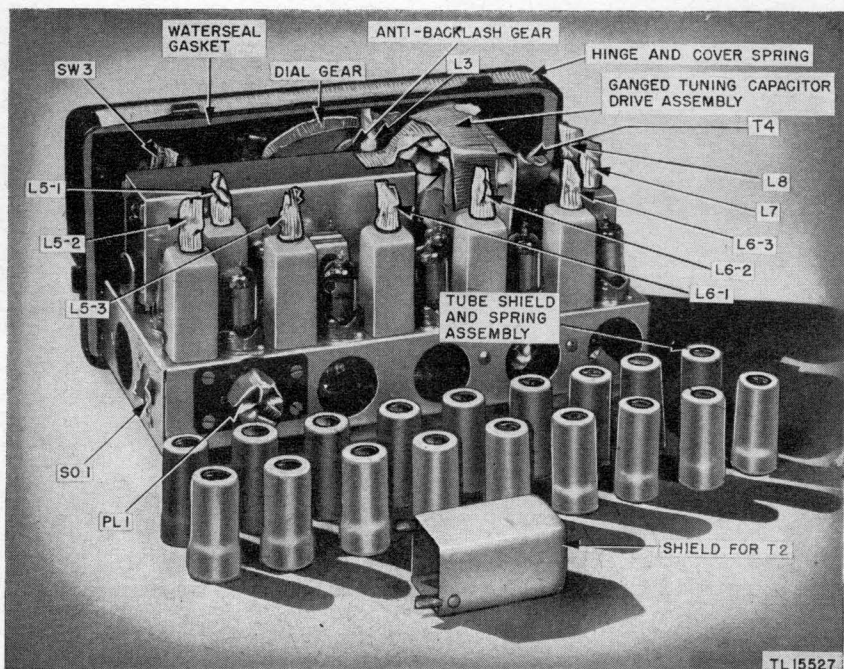

Figure 29. Radio Receiver and Transmitter BC-1000-A, masked for moistureproofing and fungiproofing—top view.
b. DISASSEMBLY. (1) Remove Radio Receiver and Transmitter BC-1000-A chassis from its case.
(2) Remove the tube shields, but leave the tubes in their sockets.
(3) Remove the shield cover from transformer T2.
(4) Remove crystals XTAL1 and XTAL2.
(5) Clean all dirt, dust, rust, fungus, oil, and grease from the equipment.
c. MASKING (figs. 29 and 30). With masking tape, cover: